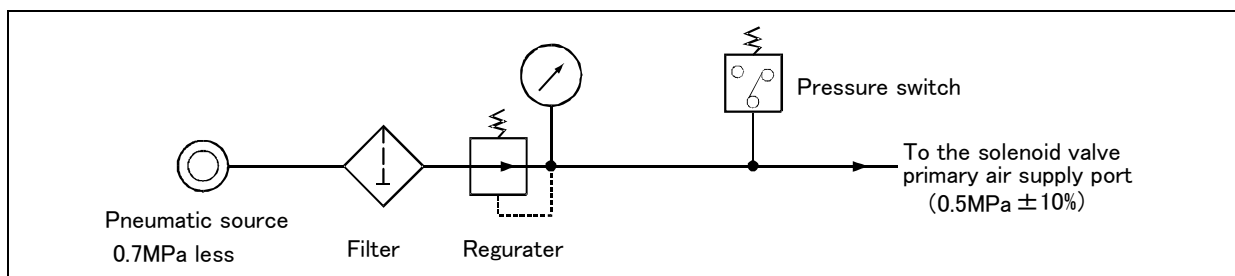

Fig.2-29 : Air supply circuit example for the hand
1. Refer to Fig. 2-29 for an example of a supply air circuit.
Fig. 2-29 shows an example of pneumatic supply circuitry for the hand.
- (1) Place diodes parallel to the solenoid coil.
- (2) When the factory pneumatic pressure drops, as a result of the hand clamp strength weakening, there can be damage to the work. To prevent it, install a pressure switch to the source of the air as shown in Fig. 2-29 and use the circuit described so that the robot stops when pressure drops. Use a hand with a spring-pressure clamp, or a mechanical lock-type hand, that can be used in cases where the pressure switch becomes damaged.
- (3) The optional hand and solenoid valve are of an oilless type. If they are used, don't use any lubricator.